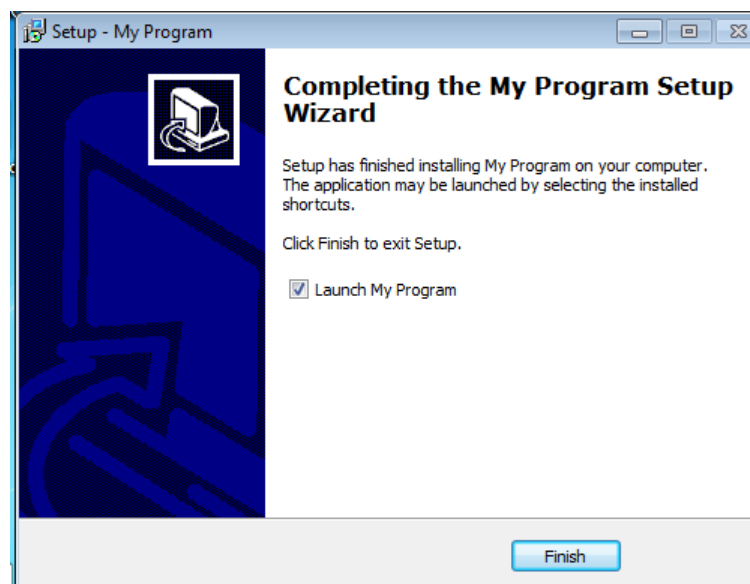

Figure 5: Driver Set-Up Success
3. Wait for the status screen to verify that installation is complete (see Figure 5).